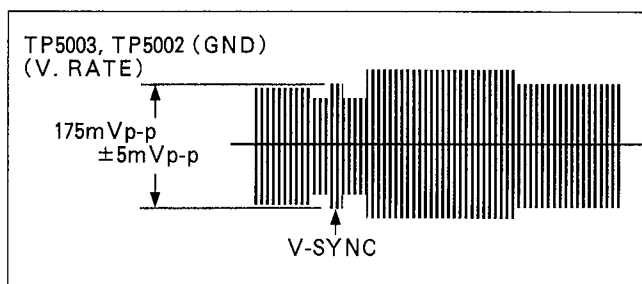

Figure E8
2. Adjust VR5001 so that the sync tip level becomes 175mVp-p ± 5mV as shown in Figure E8.